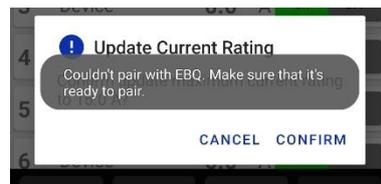

Figure 9 Error Notice if mis-deleted Bluetooth pairing in mobile phone
3. The error notice will pop-up in apps as shown in Figure 9.